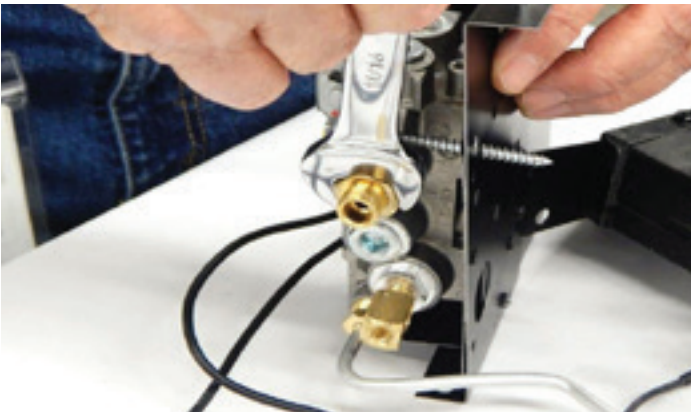

Figure 31
28. Apply pipe dope to the threads of the saved output fitting and install with 11/16" wrench. **See Figure 31.**